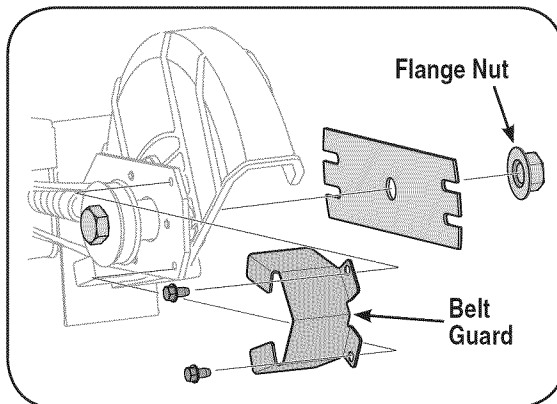

Figure 6-3: Remove the blade.
4. Use two wrenches (one wrench to prevent the hex bolt head from spinning and the other to remove the flange nut) to remove the edger blade, Figure 6-3.